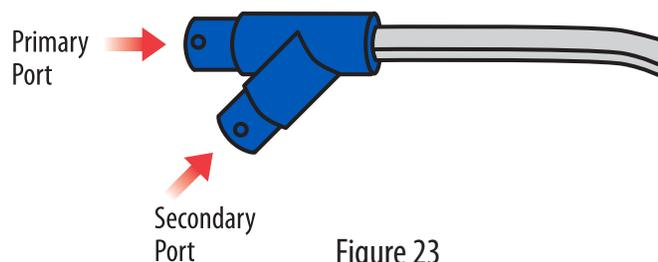

Figure 23
WARNING: When using the Occlusion Detection Y Connector to treat multiple wound sites, the CATALYST™ only detects blockages in the wound site connected to the primary Occlusion Detection Y Connector port (**Figure 23**).
2. Connect the Twist N' Connect™ tubing for each wound to the bifurcated end of the Y Connector (**Figure 23**).